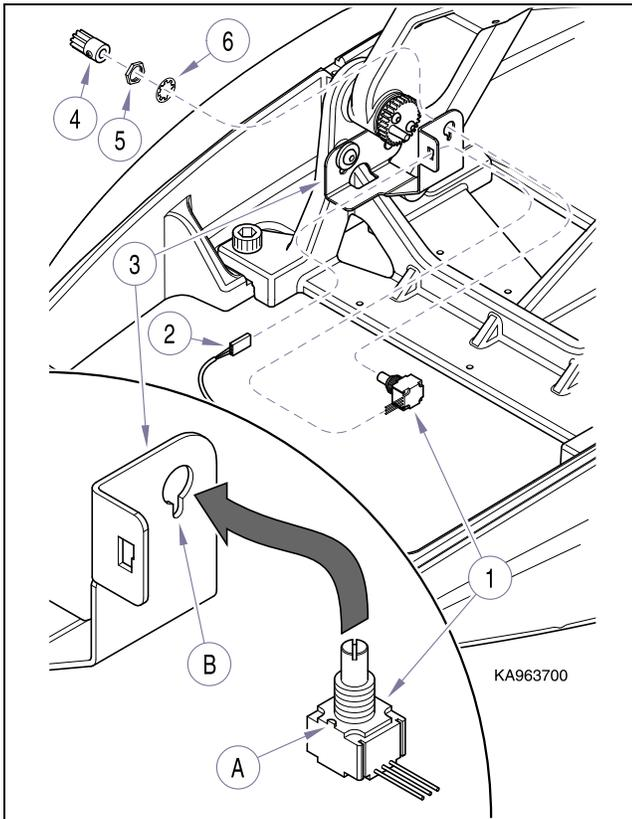

Figure 4-19. Base Potentiometer
If necessary, base positioning potentiometer (1, Fig. 4-19) can be over-ridden in order to operate Base section.
- (2) Disconnect plug connector (2, Fig. 4-19) from base positioning potentiometer (1).
- (3) Remove lower sensor bracket (3) and potentiometer (1), two screws.
- (4) Loosen screw, and remove pinion gear (4) from shaft of potentiometer (1).
Locator notch (A) on potentiometer (1, Fig. 4-19) fits into cut-out (B) of lower sensor bracket (3).
- (1) Secure potentiometer (1, Fig. 4-19) to lower sensor bracket (3) with lockwasher (6) and mounting nut (5).
- (2) Install pinion gear (4) onto shaft of potentiometer (1) and secure with screw.
- (3) Position bracket (3) and potentiometer (1) onto chair and secure with mounting screws.
- (4) Connect plug connector (2) to potentiometer(1).